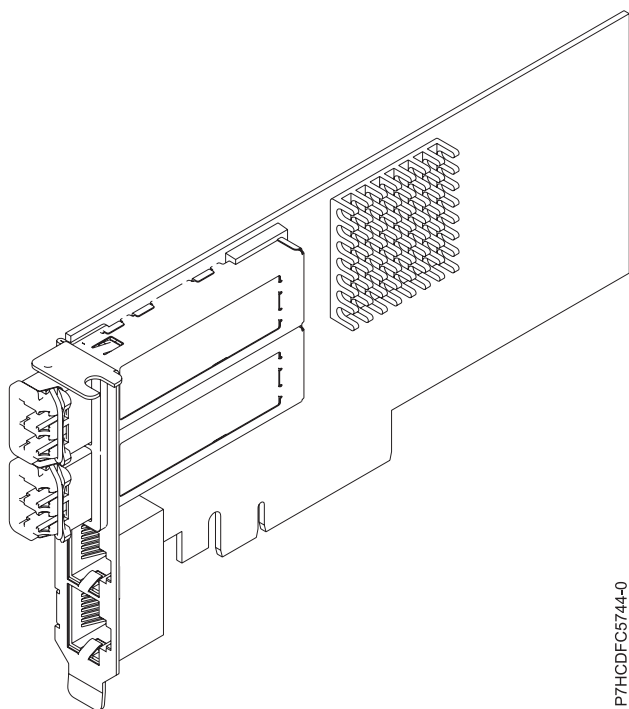

Figure 26. PCIe2 LP 2x10GbE SR 2x1GbE UTP adapter
The PCIe2 LP 2x10GbE SR 2x1GbE UTP adapter is a PCI Express generation-2, four-port Ethernet unified wire adapter with a PCI Express 2.0 host bus interface. The adapter is optimized for cloud computing, virtualization, storage, and other data center applications. The four port adapter provides two 10 Gb Ethernet ports and two 1 Gb Ethernet ports. The two 10 Gb small form-factor pluggable (SFP+) single root (SR) transceiver ports are used for connectivity with other servers or switches in the network. Each SFP+ (SR) port provides Ethernet connectivity with a nominal data rate of 10 Gbps (gigabits per second), and uses the SFP+ copper twinaxial cables up to 5 m (16.4 ft) in length. Each of the RJ45 ports provides Ethernet connectivity at a data rate of 1 Gbps. The link aggregation and failover features of the adapter are ideal for critical network applications that require redundancy and high availability. Figure 26 shows the FC 5745 adapter.